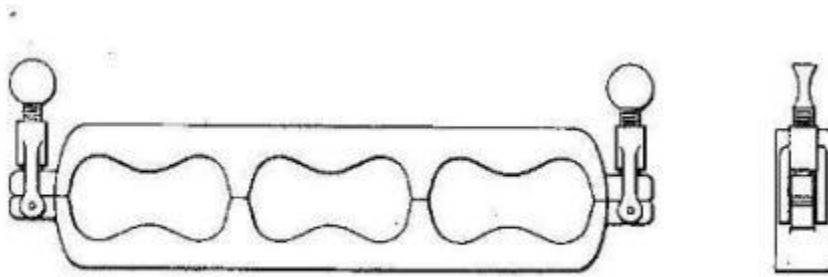
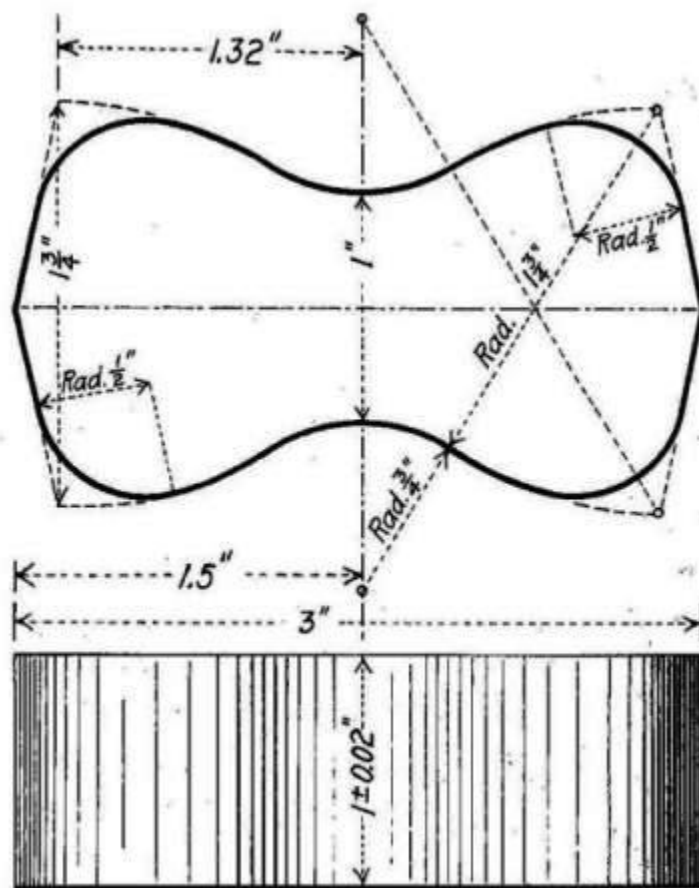

Figure 1—Briquette Mold
Figure 2—Required Briquette Specimen Dimensions
- 8.2.1.3 *Molds*, of the type shown in Figure 1. Molds must be made of material not attacked by cement mortar. The molds must have sufficient dimensions to make briquettes of the size shown in Figure 2. The waistline of each briquette must be 1 ± 0.02 in. (25 ± 0.5 mm), and the thickness of the molds must be 1 ± 0.02 in. (25 ± 0.5 mm).